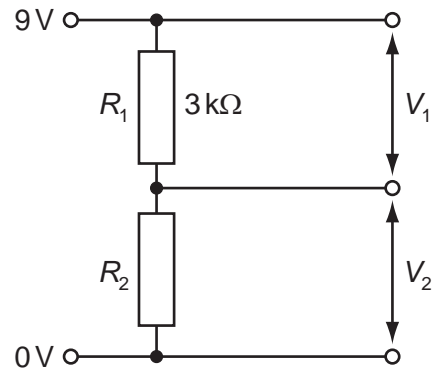

Fig. 7
- (e) Fig. 7 shows a pair of resistors used to control voltage in a circuit.